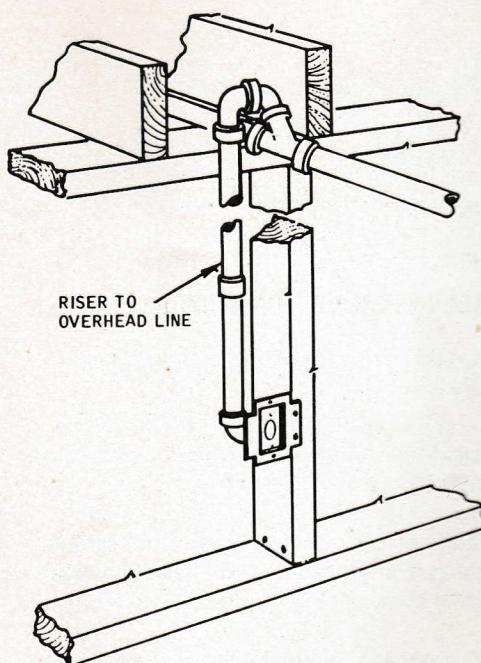

FIGURE 12
9. Figure 12 illustrates an installation to an overhead line. The assembly procedure follows the others called out in this section.